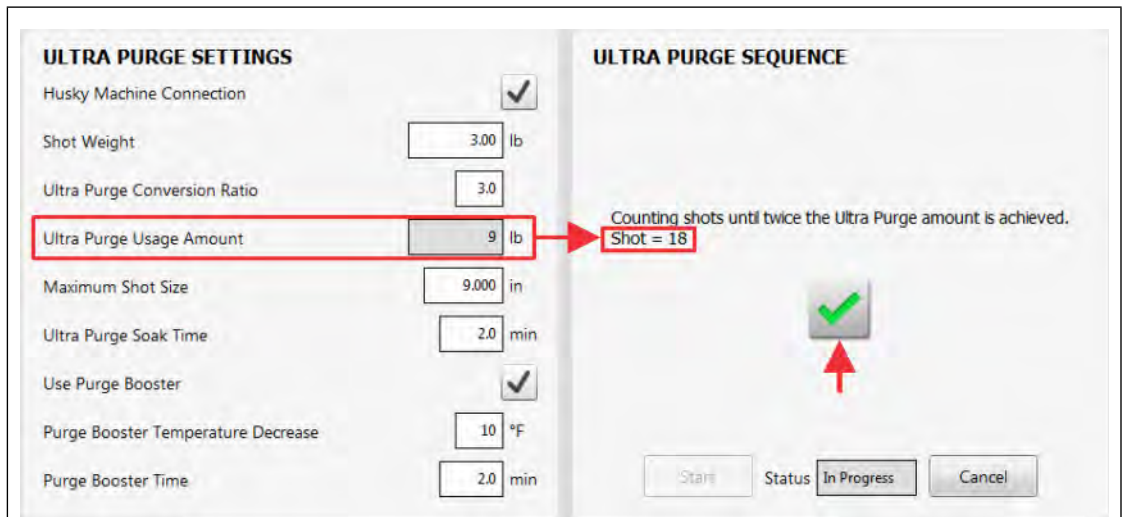

Figure 13-48 Count Parts until Twice the Ultra Purge Amount
- 16. Let the controller count parts until it gets to twice the Ultra Purge amount, and then touch the green check mark button (Figure 13-48).